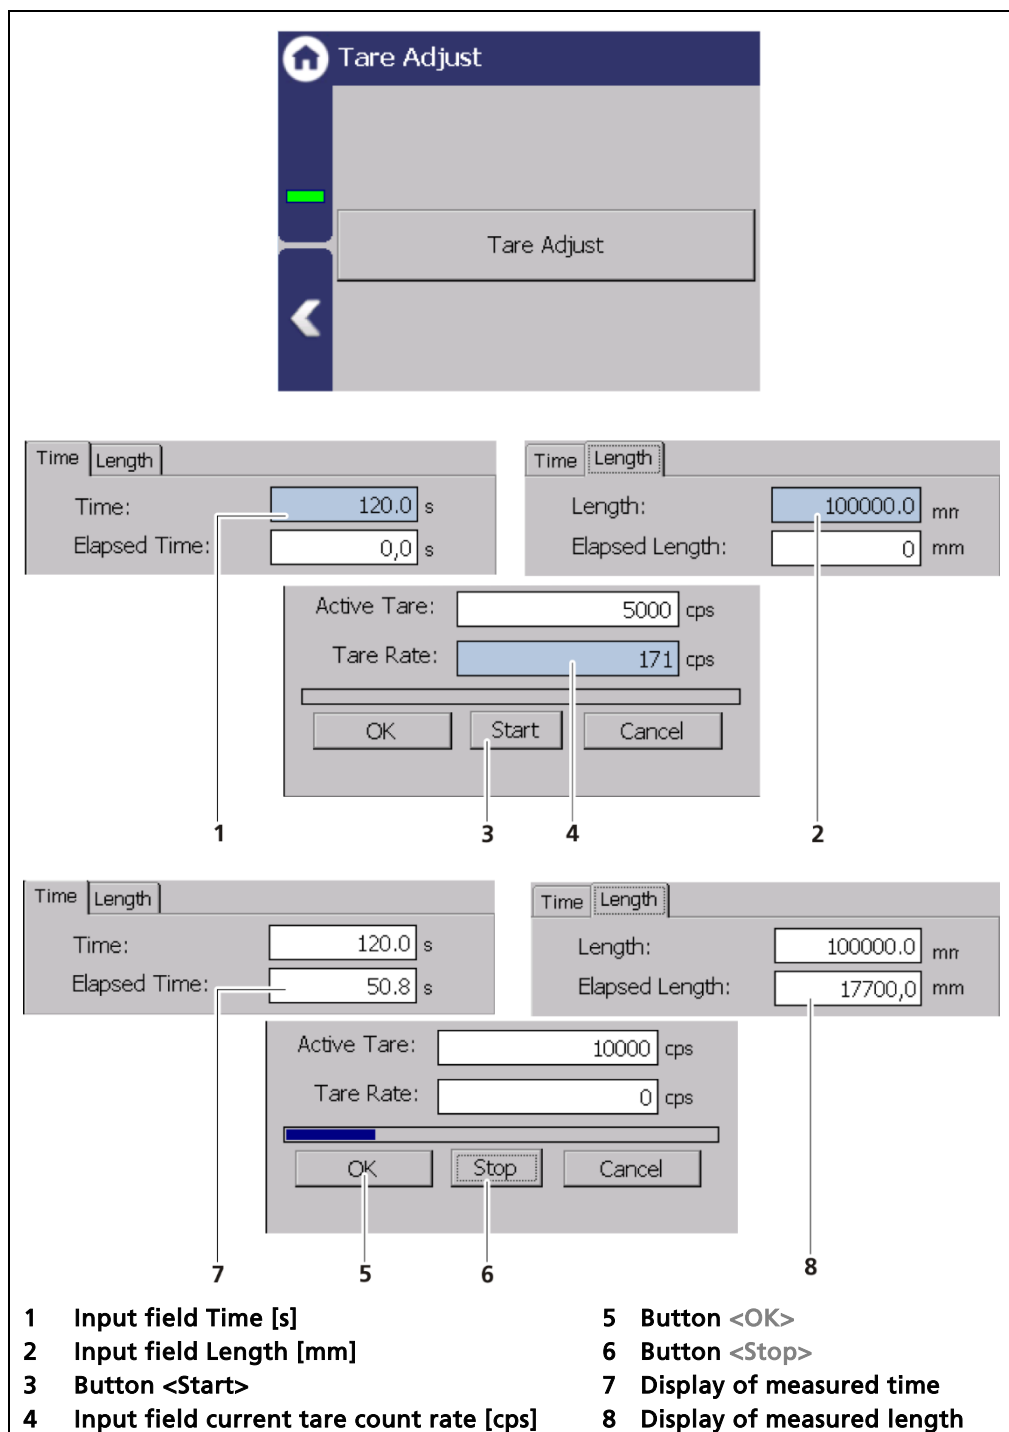

Fig. 146 Tare Adjust
- Tare measurement by time stipulation (Fig. 146, item 1)
- Tare measurement by belt length stipulation (Fig. 146, item 2)
The measurement can be cancelled using the button <Stop> (Fig. 146, item 6). The values established up to the point of cancellation can be taken over.
The value of the tare measurement may be entered manually (Fig. 146, item 4), if the count rate of the tare measurement is known.
3. Enter a multiple of the time for a circuit in the input box (Fig. 146, item 1).
- ▶ The tare measurement is carried out and the measured time (Fig. 146, item 7) is displayed.
5. Click on the button <OK> (Fig. 146, item 5) to save the tare measurement.
3. Click on the button <Start> (Fig. 146, item 3) to start the tare measurement.
4. Click on the button <OK> (Fig. 146, item 5) to save the tare measurement.